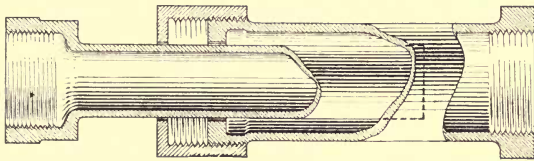

FIG. 3. — An expansion joint.
**Expansion of water.** Most of us are familiar with the fact that solids expand when heated. The next time you cross an iron bridge, see if you can find the expansion joint provided to allow for the expansion of the iron. Such expansion joints are used in many places to prevent the straining of the metal that occurs when it is held rigidly and heated. There are many such expansion joints in the steam lines of your school building. Figure 3 shows a section of one of these